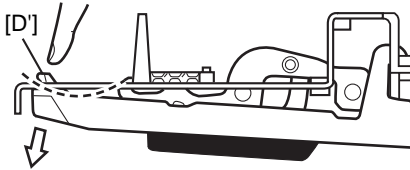
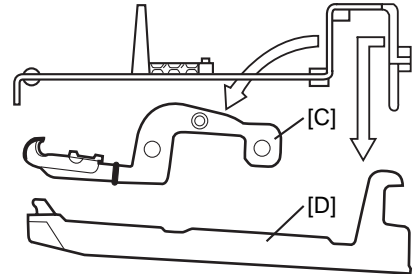

Fig.8
Fig.9
- 13-2 Press the part marked [D] in the direction shown in figure 9, then remove the key marked [D] and the hammer assembly marked [C]. (Fig. 8, Fig. 9)